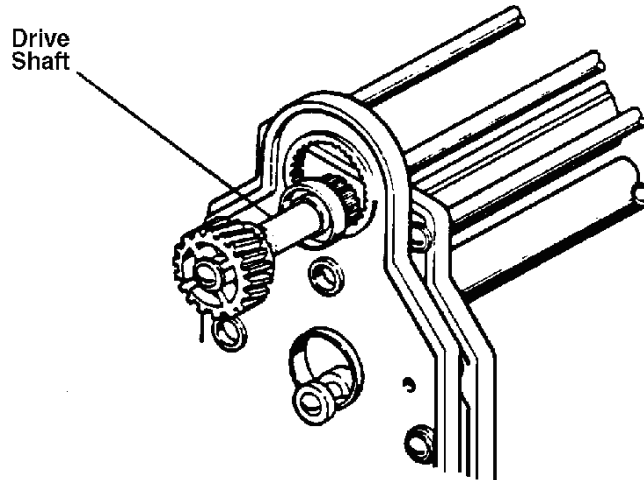

Figure 1-7. Wet section rack.
- (6) Check the hose clamps, plumbing, and rack bearings.
- (7) Perform the following lubrication steps:
- (a) Apply a thin coat of AFP-8827 grease to each of the wet section rack drive shafts under the support spacers (see figure 1-7).